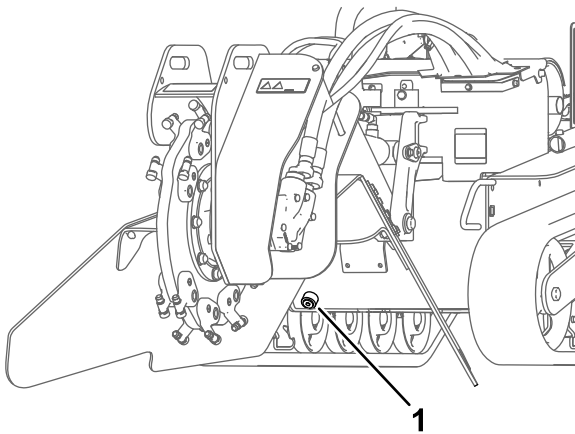

Figure 59
7. Remove the hydraulic tank drain plug and allow the fluid to drain into the pan (Figure 59).